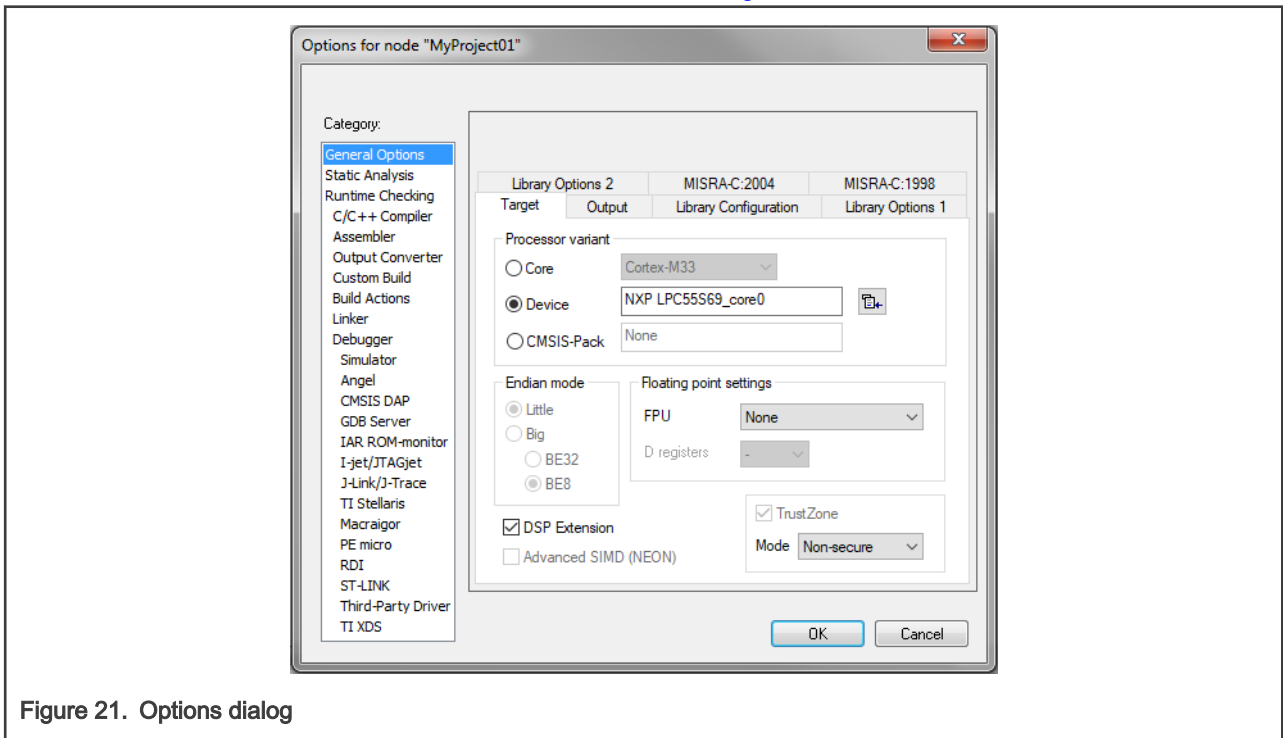

Figure 21. Options dialog
6. In the Target tab, select the Device option, and click the button next to the dialog to select the MCU. In this example, select NXP > LPC55S69 > NXP LPC55S69_core0. Select None in the FPU option. The DSP instructions group is required please check the DSP Extensions checkbox if not checked. Click OK. See Figure 21.